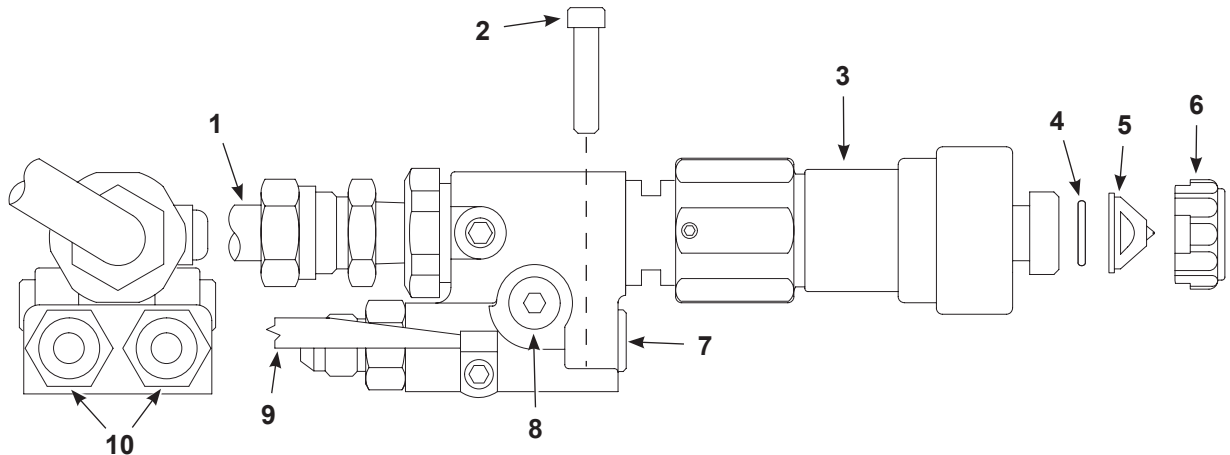

Figure 2 MEG II Gun Components (Top View)
See Figure 2.
See Figure 2. Connect the fluid inlet and outlet hoses to the fluid fittings (7). Either fitting may be used for the inlet. The fittings are ½-20 37° JIC.